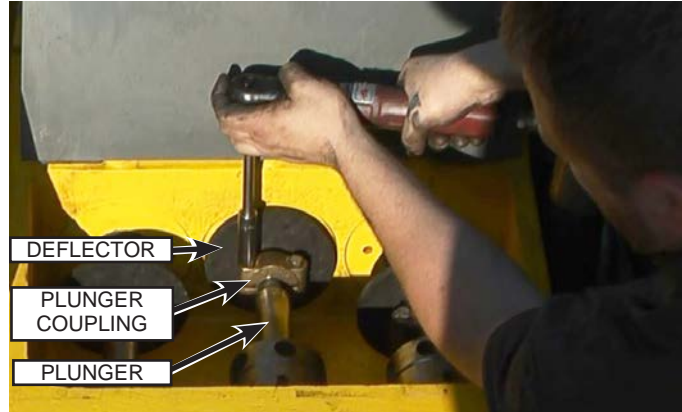

Fig. 131: Plunger Connection
10. Install the deflector (Fig. 131) onto the pony rod.